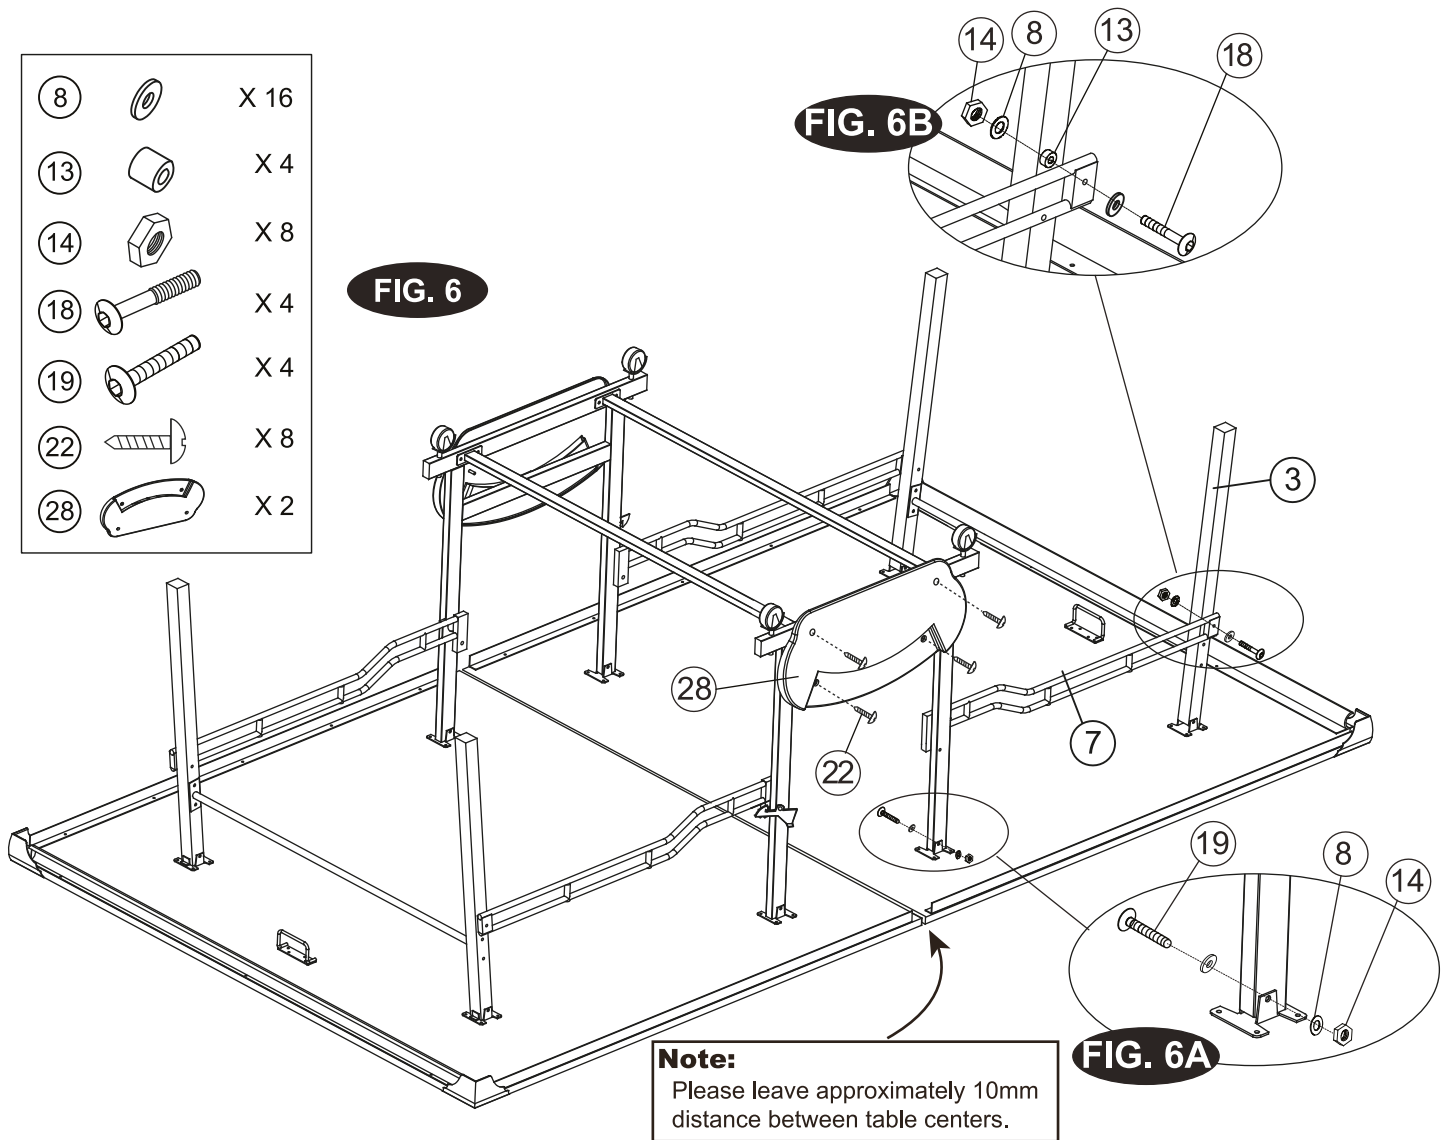

FIG.6
17. Turn over the pre-assembled Caster Frame (see FIG. 6), then attach tubes into small Brackets(#33) using one Bolt (#19), 2 washers(#8) and one Nut(#14). Repeat for all four tubes.
See FIG. 6.